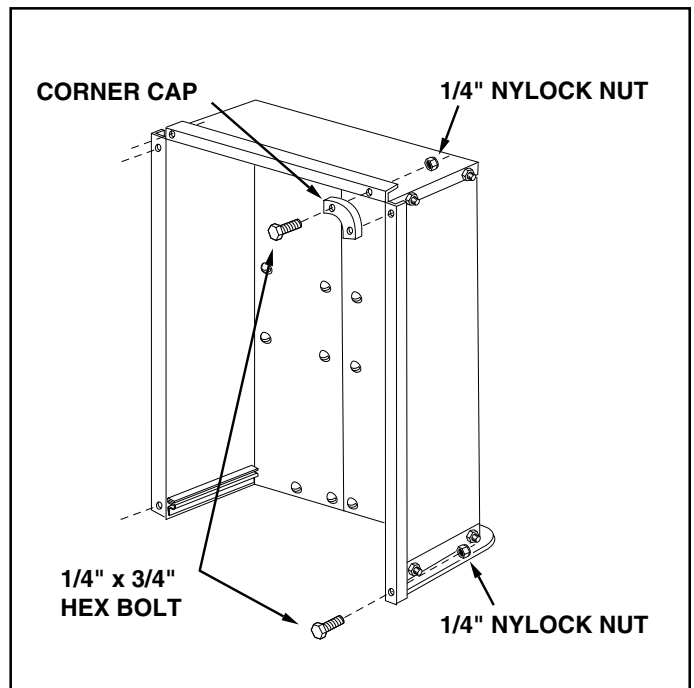

FIGURE 7
13. Assemble the two corner caps to the front corners of the cart using four 1/4" x 3/4" hex bolts and 1/4" nylock nuts. Also assemble two 1/4" x 3/4" hex bolts and 1/4" nylock nuts to the two rear corners of the cart. **Tighten**. See figure 7.